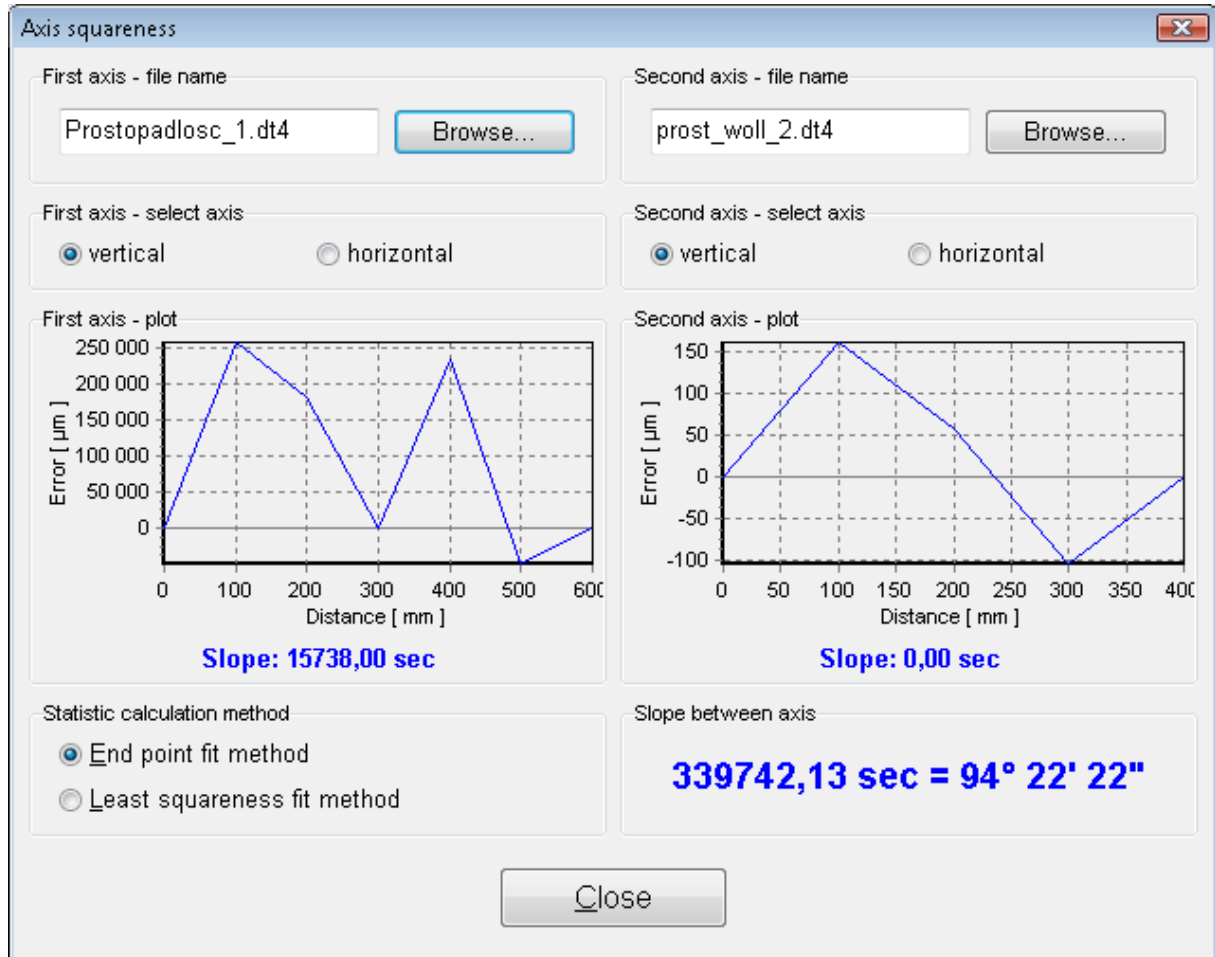

FIG.7.21. SQUARENESS MEASUREMENT RESULTS
- f. Choose **Edit->Squareness** option. The window like the one shown on the Fig 7.21.